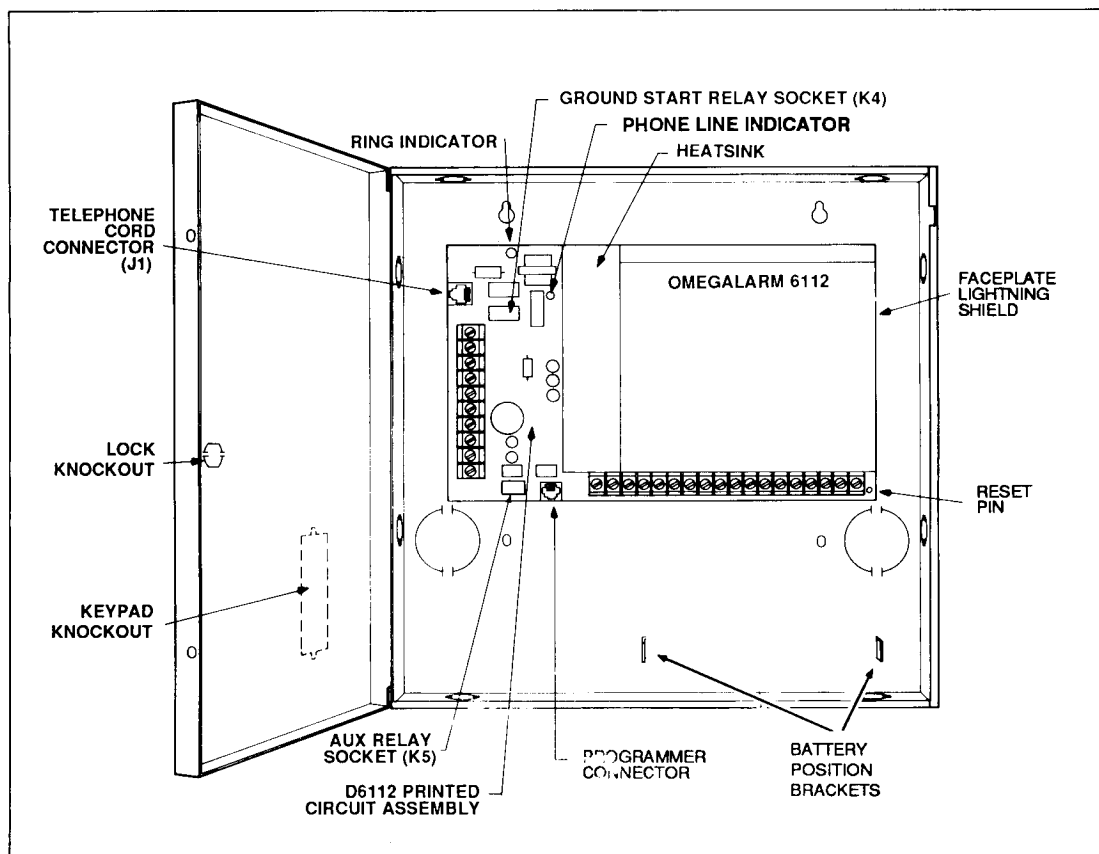

Figure 1: D6112 CONTROL/COMMUNICATOR ASSEMBLY
- 2.4 **Reset Pin** - The D6112 reset pin is located in the lower right hand corner of the printed circuit assembly, to the right of the horizontal terminal strip (see Figure 1). Momentarily connect this pin to terminal 27 to reset the Control/Communicator. NOTE: Some versions of the D6112 contain a *momentary reset button* instead of a reset pin. Press this button to reset the D6112.